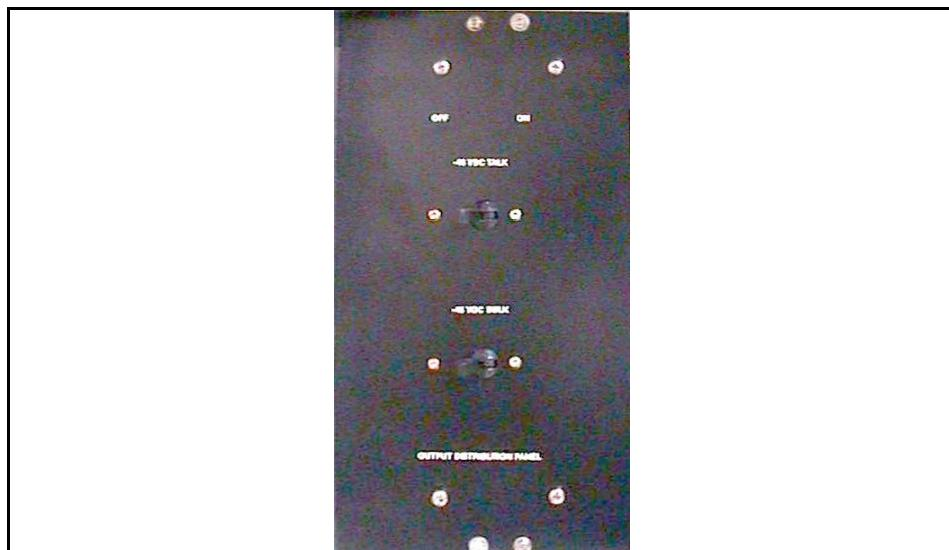

Figure 3 Output distribution panel, front view
5. At the front of UDCD cabinet 1 stack 1 ODP (Figure 3): Turn on the -48-V TALK circuit breaker.
4. At the front of UDCD cabinet 1 stack 2 ODP: Turn on the -48-V BULK circuit breaker (see Figure 3).
5. At the front of UDCD cabinet 1 stack 2 ODP: Turn on the -48-V TALK circuit breaker (see Figure 3).
8. At the front of UDCD cabinet 2 stack 2 ODP: Turn on the -48-V TALK circuit breaker (see Figure 3).